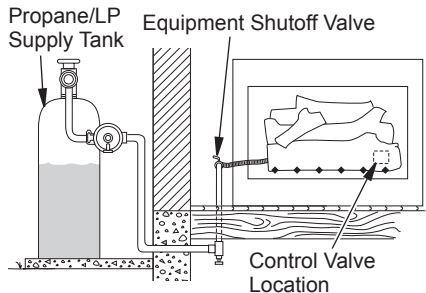
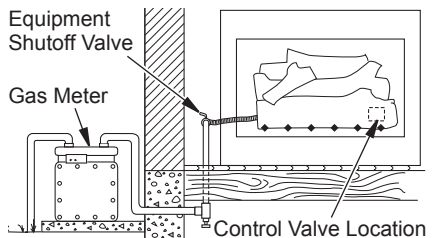

Figure 16 - Checking Gas Joints (Propane/LP Gas Only)
Figure 17 - Checking Gas Joints (Natural Gas Only)
3. Check all joints from gas meter (natural gas) or propane/LP supply to equipment shutoff valve (see Figure 16 or Figure 17).
4. Check all joints from gas meter (natural gas) or propane/LP supply to equipment shutoff valve (see Figure 16 or Figure 17). Apply a commercial leak detection solution to all joints. Bubbles forming show a leak.